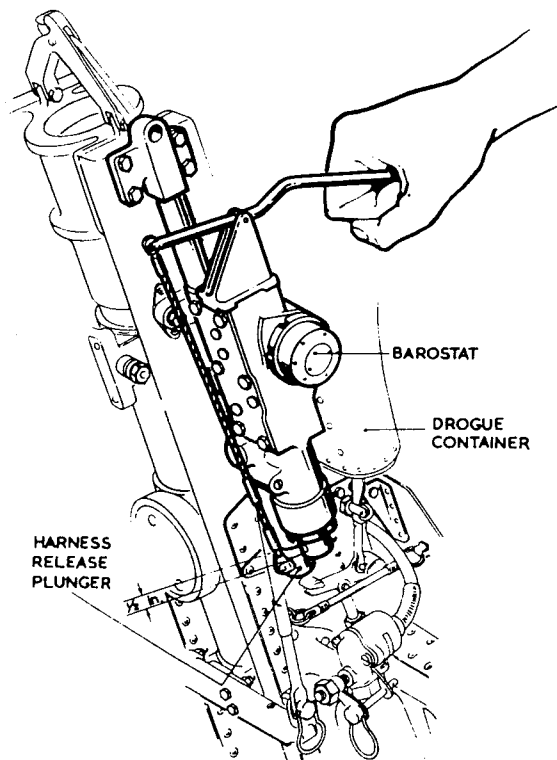

Fig 4 Checking the gears in overrun (2)
9.6 Repeat item 9.5 for the harness release plunger, an approximate measurement of 0.5 in should be obtainable (fig 4).